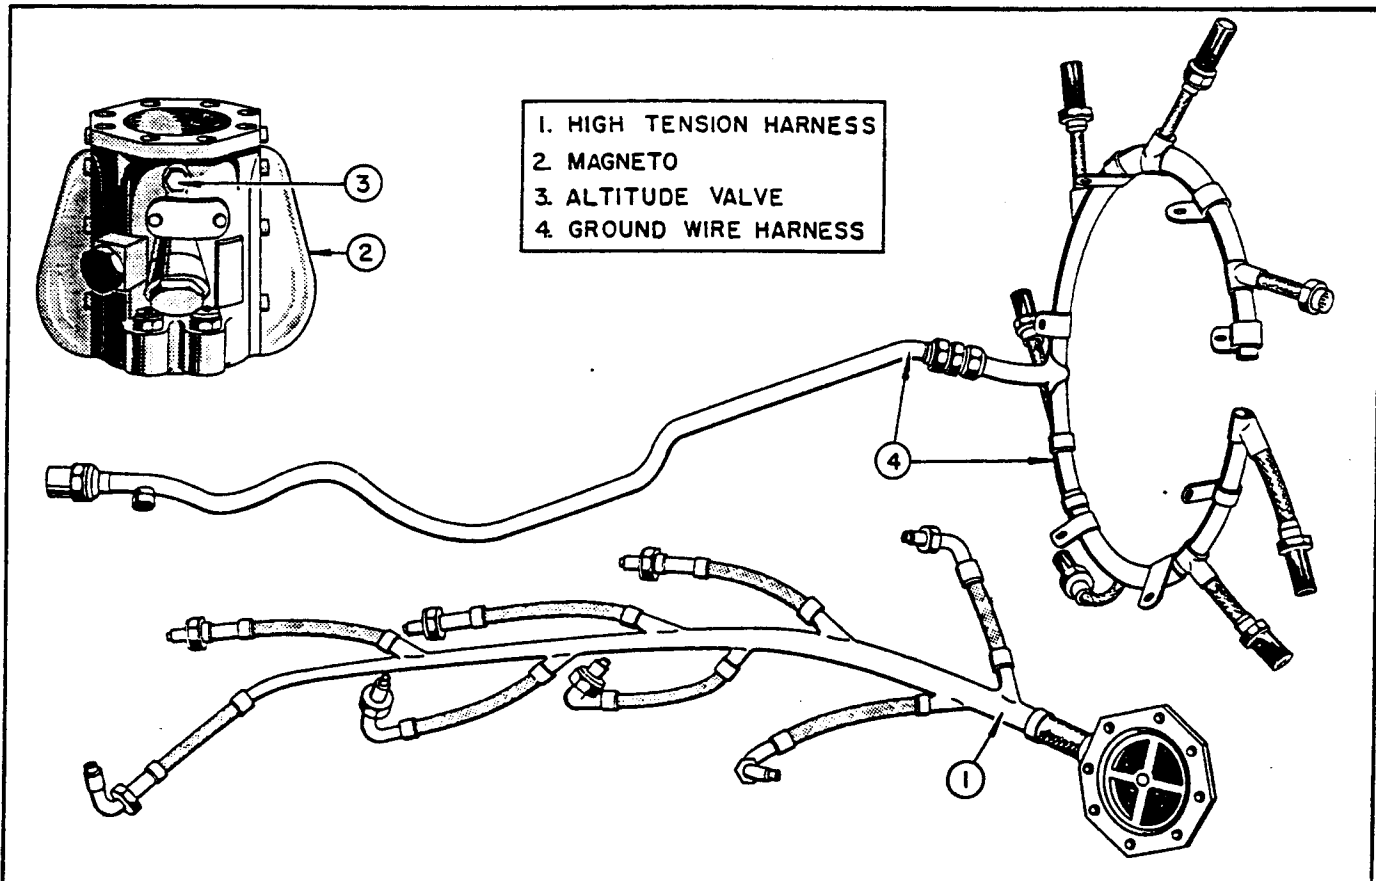

Figure 29. Magneto, Ignition Harness, and Starter Coil
(See figure 29.)
g. IGNITION HARNESS. (See figure 29.)
(1) DESCRIPTION.- The distributor block end of each of the seven high tension cable assemblies is attached to the side of the magneto which opens into the distributor rotor compartment. Each distributor block carries eight electrodes, a pair of electrodes for the two spark plugs in each of the four cylinders fired by the magneto to which the spark plug cable assembly is attached. The cables from the electrodes to the spark plugs are housed in a metallic conduit filled with an insulating moisture proof sealing compound.
(2) REMOVAL.- Disconnect the leads from the spark plugs, remove the manifold position-